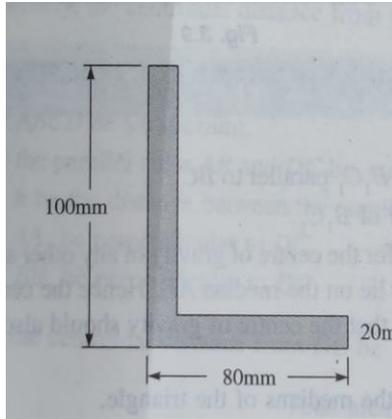

fig.3
- (1) Centroid,
- (2) Center of gravity,
- (3) Center of mass.
- (c) Find the centroid of the Lamina shown in fig.3 and moment of Inertia @ its centroid.** **07**